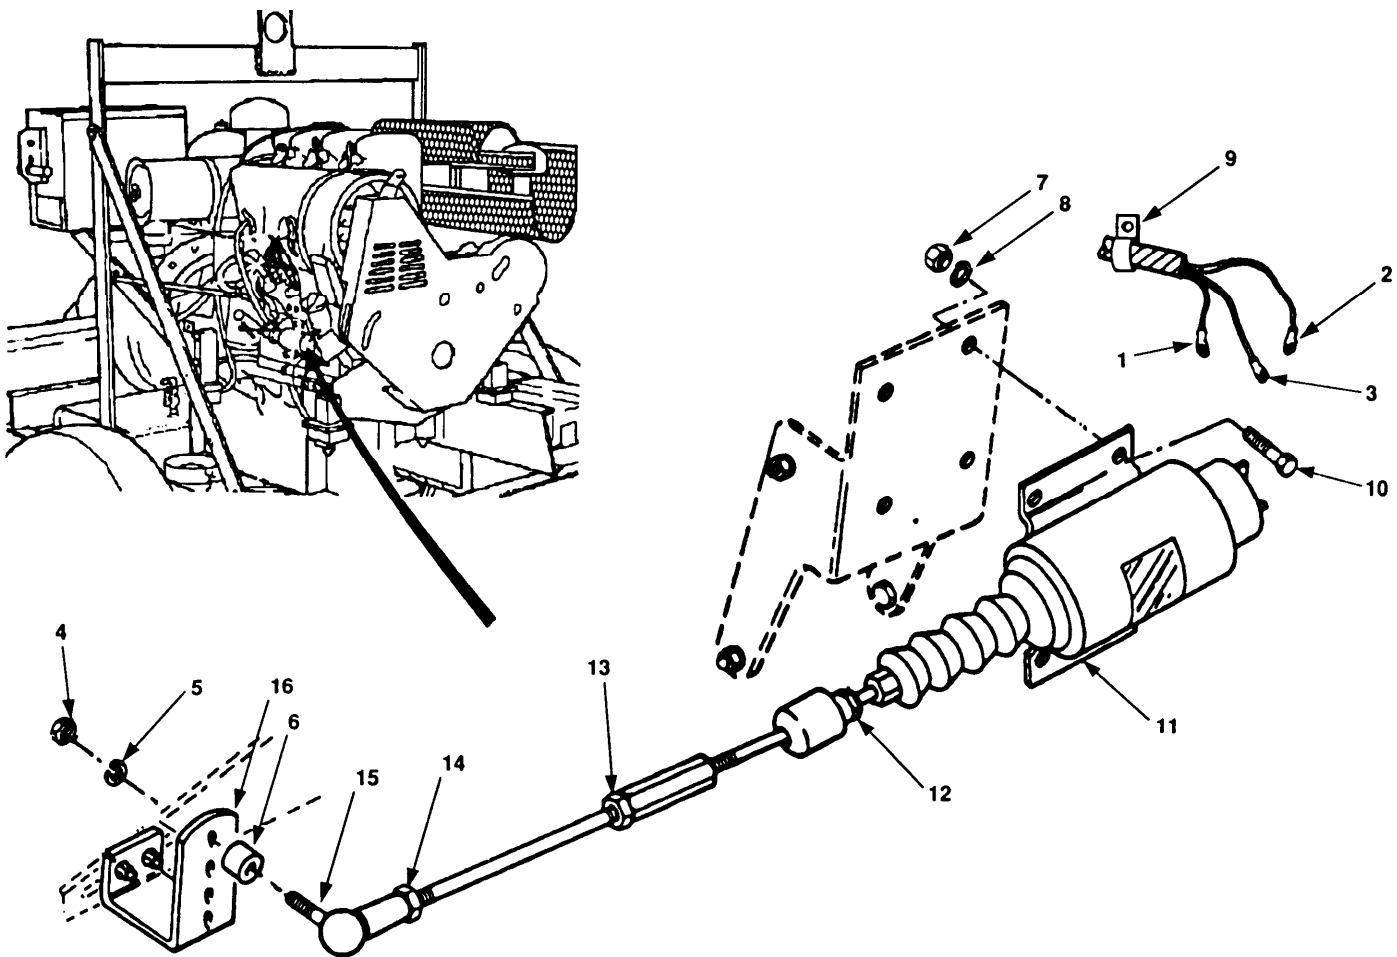

Figure 4-19. Shutdown Solenoid Maintenance.
- a. Tag and disconnect wires (figure 4-19, 1, 2, and 3).
- b. Remove nut (4), lockwasher (5) and spacer (6).
- c. Remove nuts (7), lockwashers (8), clamp (9) and bolts (10).
- d. Remove shutdown solenoid assembly (11) with linkage.